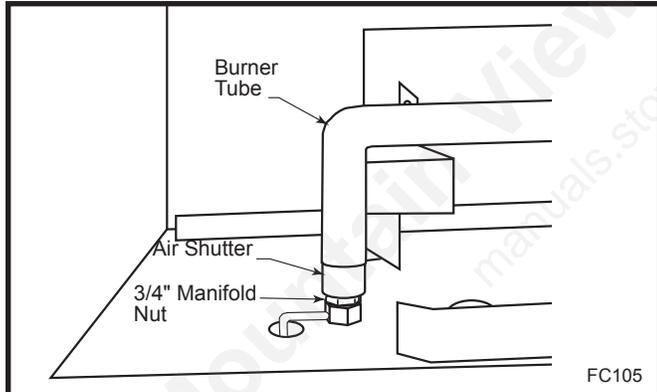

Fig. 18 Loosen manifold from air shutter.
2. With a 3/4" wrench, loosen the manifold from the air shutter. (Fig. 18)